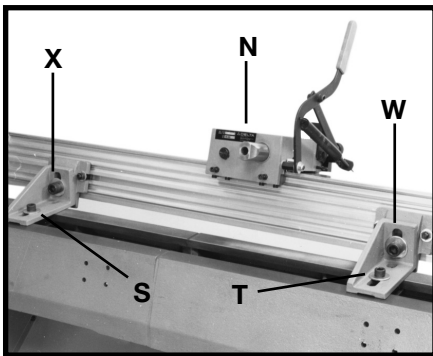
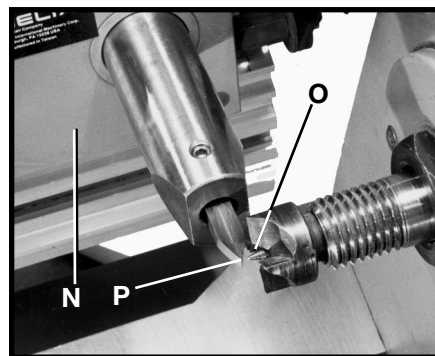
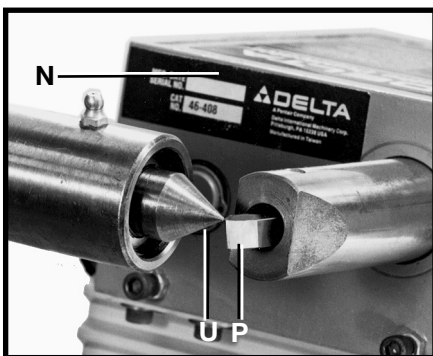
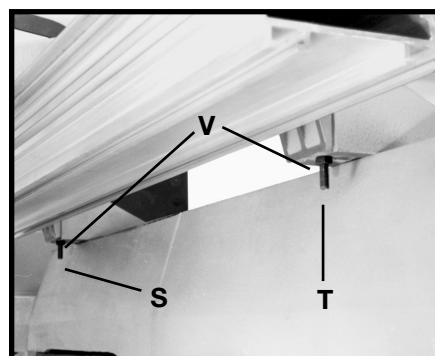

Fig. 60
Fig. 61
Fig. 62
Fig. 63
10. Move duplicator carriage (N) Fig. 60 to the left until the cutting tool is in the same plane as headstock center. Loosen two socket head bolts (S) and (T) Fig. 60, and slide duplicator in or out until point of cutting tool (P) Fig. 61 is aligned vertically (up or down) with point of headstock center (O). Snug-up socket head bolt (T) Fig. 60.
- A. Move duplicator carriage (N) Fig. 60 to the right until point of cutting tool (P) is in the same plane with point of tailstock center (U) Fig. 62. Slide duplicator in or out until point of cutting tool (P) is vertically on the same plane with point of tailstock center (U).
- B. Snug-up socket head bolts (T) Fig. 60. Recheck for alignment between the point of cutting tool vertically with the headstock and tailstock centers and tighten two socket head bolts (S) and (T) Fig. 60.
- C. Move carriage assembly (N) Fig. 60 to the headstock until the point of cutting tool (P) Fig. 61 is on the same plane (up or down) with headstock center (O) Fig. 61.
- D. If the point of cutting tool (P) Fig. 61 is above or below the headstock center (O), loosen socket head bolts (W) and (X) Fig. 60, and loosen locknuts (V) Fig. 63. Turn leveling screw (S) Fig. 60 clockwise or counter-clockwise to raise or lower cutting tool until the edge of cutting tool (P) Fig. 61 contacts headstock center (O).
- E. Move carriage assembly (N) Fig. 62 to the tailstock until the point of cutting tool (P) is on the same plane (up or down) with tailstock center (U).
- F. If the point of cutting tool (P) Fig. 62 is not contacting tailstock center (U), turn leveling screw (T) clockwise or counter-clockwise to raise or lower cutting tool until the edge of cutting tool (P) Fig. 62 contacts tailstock center (U).
- H. Firmly tighten locknuts (V) Fig. 63, and tighten bracket holding screws (W) and (X) Fig. 60.